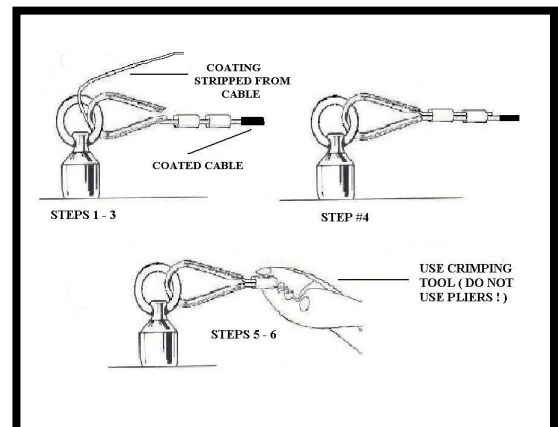

FIG. 4a
STEP 5. SENDING UNIT INSTALLATION (See Figure 4a & 4b)